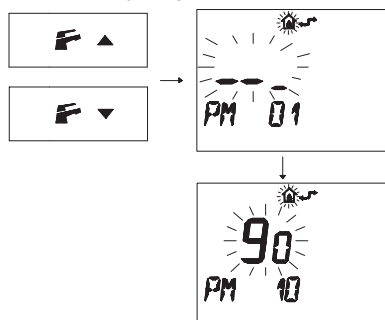

Fig. 8.28
- Press buttons **F** and **▲** or **F** and **▼** to display the "PM10" program for selecting the ignition frequency (Fig. 8.28).
In Fig. 8.28 a SET programmed at **90** is dis-